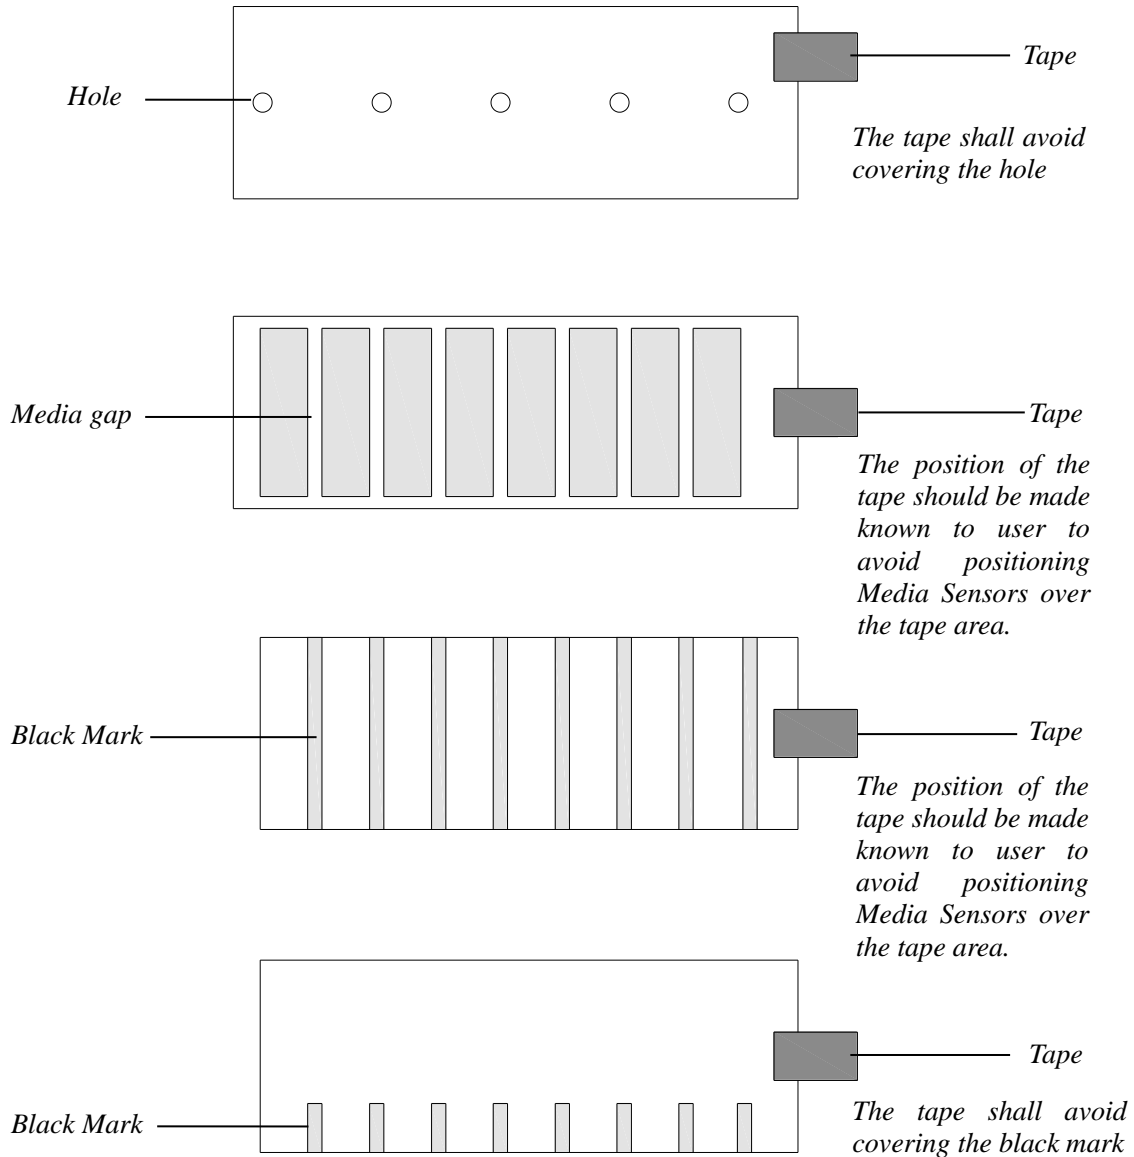

Figure 2-14 End-fixing Tape Position
- *When roll media is produced, the media end would be fixed on the media core by duct tape or scotch tape. If your printer cannot detect Media Out signal well, please refer to Figure 2-14 to check the position of the tape.*